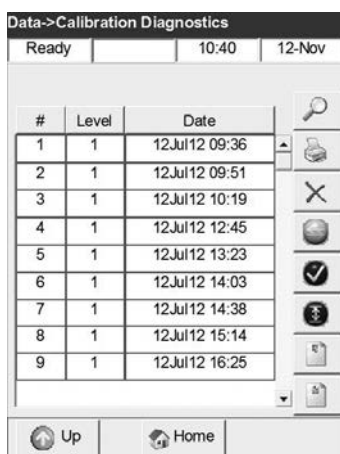

Fig. 7-48 Select Calibration
- In the **<Data - Calibration Diagnostics>** screen (Fig. 7-48), select the desired calibration and press the **View** button to display the results (Fig. 7-49). Use the **Up** and **Down** buttons to display the previous or next page of results.
- To print individual results, highlight the desired measurement (Fig. 7-48). To print groups of results, highlight the first measurement to be printed, press **Mark**, then select the last measurement to be printed. All the measurements in between will be selected. Press **All** to select all results.